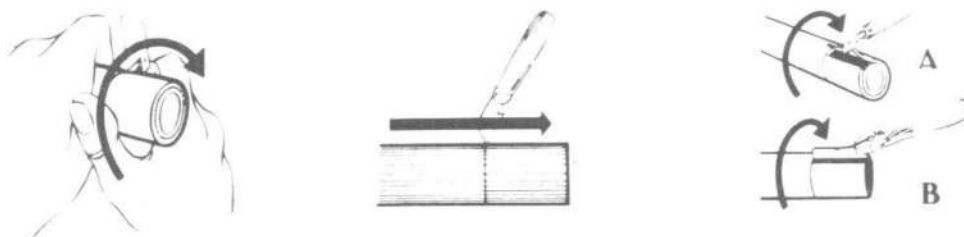

Fig.11 Outer cover removal
(1) Prepare the hose (fig. 11) by stripping part of the outer cover. Using the notch on the socket as a guide to the amount to be stripped cut the outer cover and prise off as shown in fig. 11. The cover removal is eased by ensuring that the cuts are made down to the wire braid.
(2) Clean the end of the outer cover and the exposed wire braid to remove any adhering particles of rubber. A soft wire brush may be used but care must be taken so that the braid is not loosened, flared or frayed. Finally clean using trichloroethane.
(3) Apply a uniform layer of sealant to the end of the outer cover, to the exposed wire braid and to the hose end of the socket. Sealant type AE13696-001 is used on hose Pt. No. 309 and Dow-Corning sealant is used on hose part No. 611.